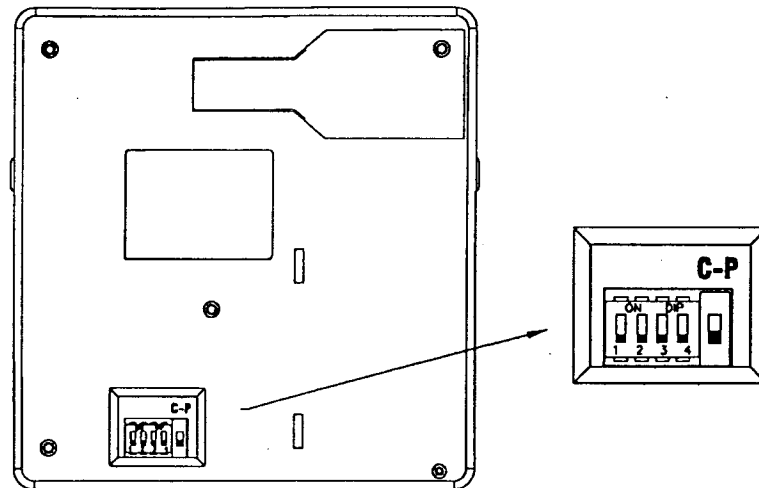

Figure 8
2. Slide the CHILD-PROOF switch to position marked C/P to activate the CHILD-PROOF function "C/P" will appear on the LCD. See figure 8.
You can set a private code into your system to prevent accidental operation by another transmitter nearby. See Fig.8.